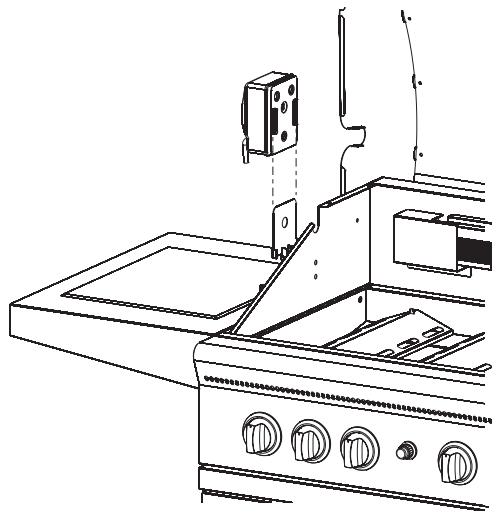

Figure 11
3. Slide motor into position on motor bracket. See Figure 11.